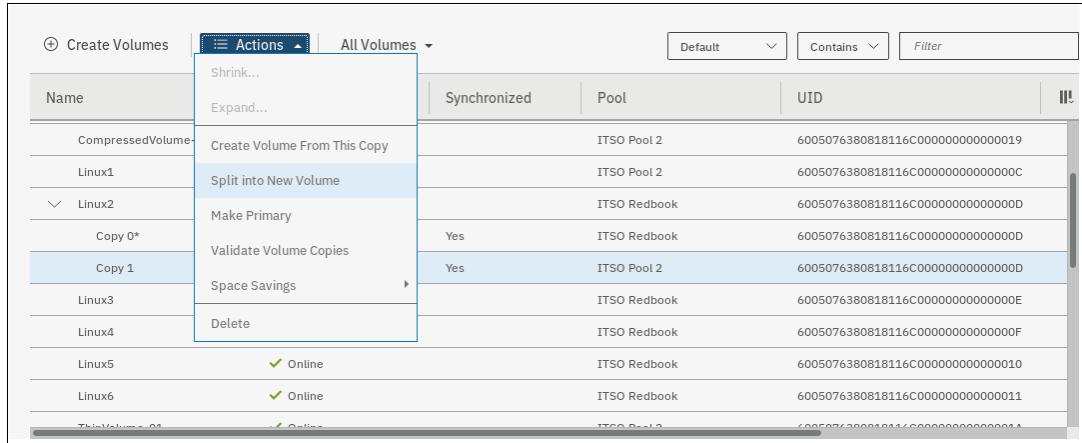

Figure 8-59 Split into New Volume option
1. Click **Split into New Volume** (see Figure 8-59) on any copy and the remaining secondary copy automatically becomes the primary for the source volume.